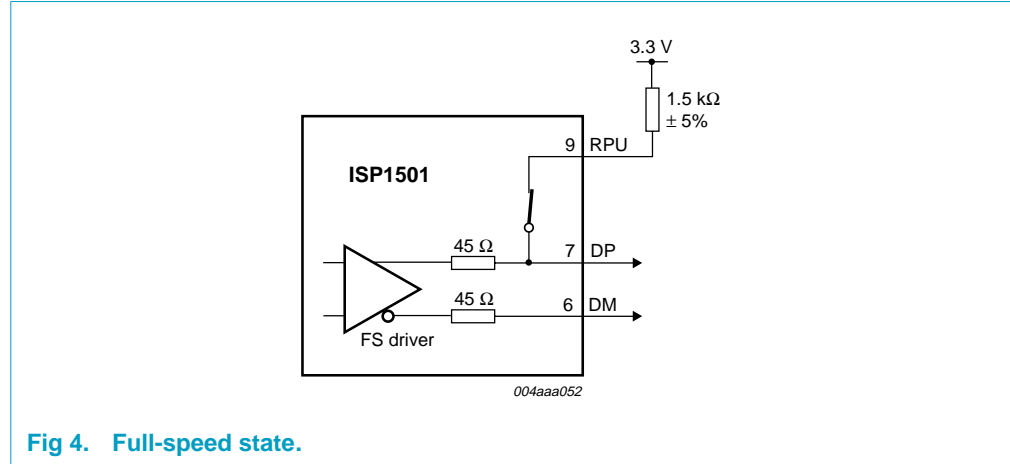

Fig 4. Full-speed state.
8.2.2 Full-speed (FS) state
In the full-speed (FS) state (MODE[1:0] = 01), an external pull-up resistor of $1.5\text{ k}\Omega \pm 5\%$ is required on the DP line. This is implemented via the RPU resistor. The RPU resistor is internally connected to the DP line. The FS transceiver is enabled, and the legacy (Original USB) SIE interface is active (see Figure 4).